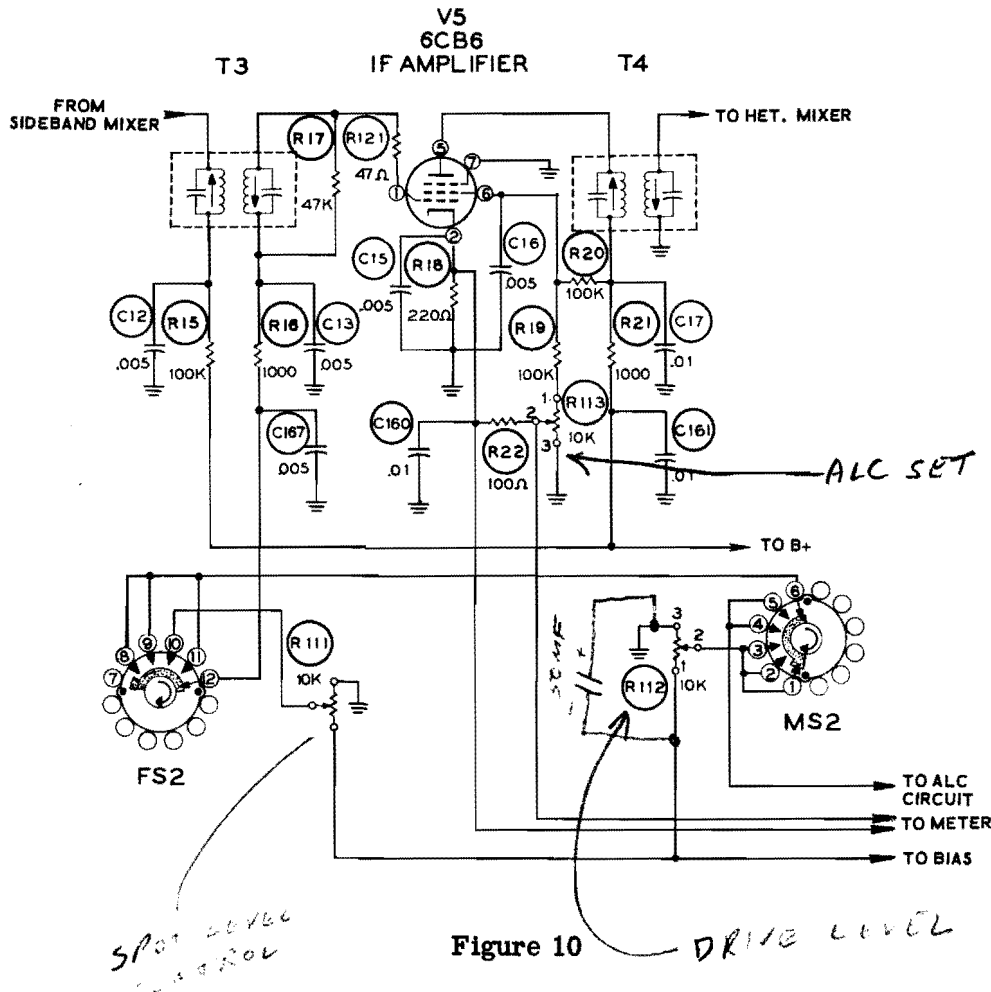

Figure 10
The sideband mixer utilizes a dual triode 12AT7 tube, V3, in which the cathodes and plates are connected in parallel. The nominal 4.99 mc upper sideband energy from FL1 is impressed on grid 1 (pin 2), while either 4.01 mc or 13.99 mc energy from sideband oscillator, V4, is impressed on grid 2 (pin 7). The sum of the 4.99 mc and 4.01 mc signals produce the upper sideband 9.0 mc intermediate frequency signal. The difference between the 4.99 mc and 13.99 mc signals produces the lower sideband intermediate frequency of 9.0 mc. The resulting 9.0 mc signal is transformer coupled through IF transformer T3 (see Figure 10) to the grid of IF amplifier V5. Transformer T3 is double tuned to pass only energy near a 9.0 mc center frequency.
INTERMEDIATE FREQUENCY AMPLIFIER (Figure 10)
When operated in LSB or USB modes, automatic level control stage V19 is placed in the circuit by Mode Switch segments 1 and 2. This ALC stage is connected to the intermediate frequency amplifier by Function Switch segment 2. The function of the ALC circuit is such that when no final amplifier grid current is drawn, a normal fixed bias condition exists at the grid of IF amplifier V5, providing maximum gain. When final grid current begins to be drawn through resistor R38, a voltage difference exists at the plate and cathode of V19. This voltage difference follows the audio voltage peaks and is coupled to V19 by capacitor C63. A portion of this fluctuating voltage is rectified by V19 and appears as bias voltage at the junction of R40 and R41. This developed additional bias voltage is connected through the Mode Switch and resistors R16 and R17 (see Figure 10), to the grid of the IF amplifier. This decreases the gain
of the IF amplifier and, consequently, the driving voltage applied to the grid of the final amplifiers much the same as a standard AGC circuit. Values for R40, R41, C67, and C68 have been chosen to prevent serious overdrive of the final amplifiers in LSB and USB modes. By reference to meter position "ALC," it may be accurately observed that (1) maximum power output is obtained and (2) peaks causing distortion are never reached. For ALC metering, R113 is used to set the normal meter resting level (see Figure 10). The RC network of R40, R41, C67, and C68 acts as a load circuit with delay time quick-acting enough to effectively prevent overdrive in all but extreme Audio Control settings of R116.